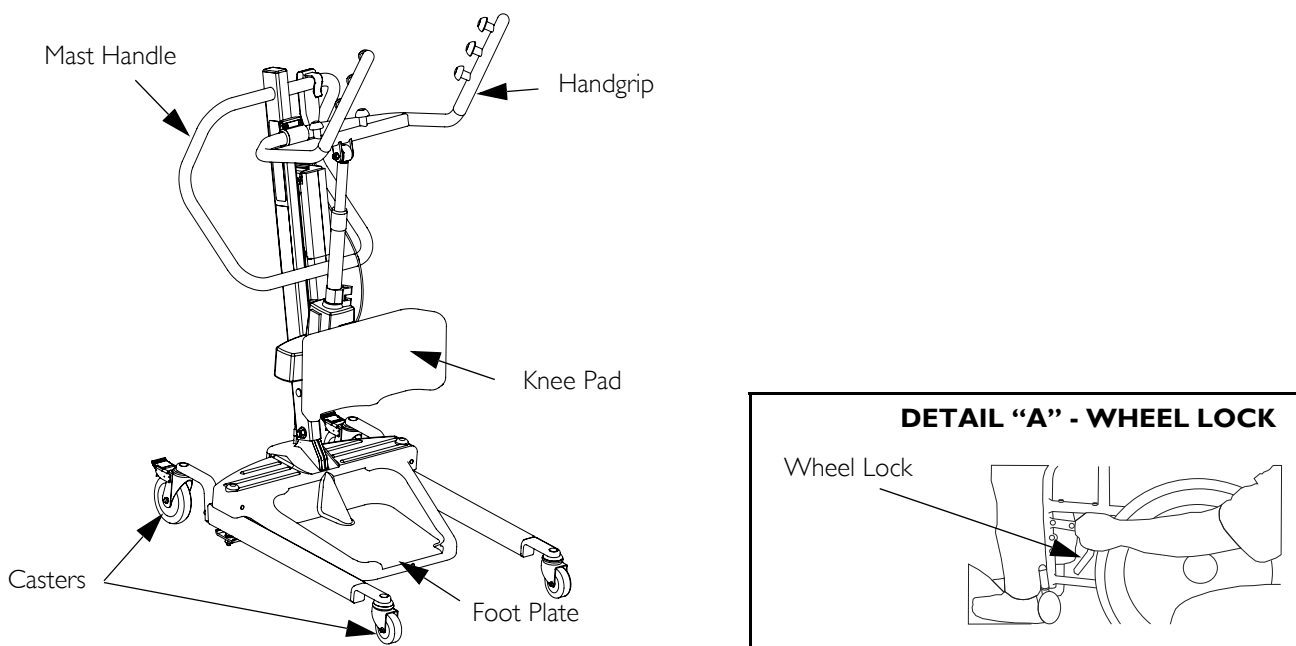

FIGURE 4.2 Lifting the Patient
NOTE: For this procedure, refer to FIGURE 4.2 on page 16.
1. Instruct the patient to hold onto the hand grips on both sides of the Stand Assist Lift (Detail "A" of FIGURE 4.2).
4. If transferring from a wheelchair, lock the wheel locks on the wheelchair (Detail “B” of FIGURE 4.2).